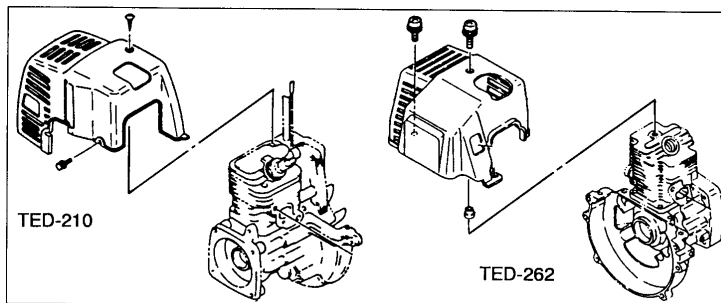

Fig. 3-6
**Cleaning the cylinder fins (Fig. 3-6)**